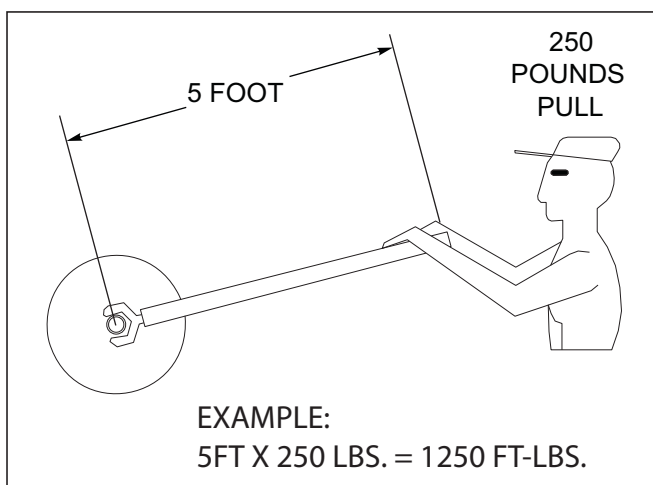

Figure 4-13: 1,250 Foot-Pounds of Torque
3. When reassembling the disc gang, remove any soil or mud from the disc blades and spools to ensure a clean surface when tightening the gang. Clean the gang threads and install the gang nut. Torque the disc gang shaft to a minimum of 1250 ft-lbs **See Figure 4-13**.